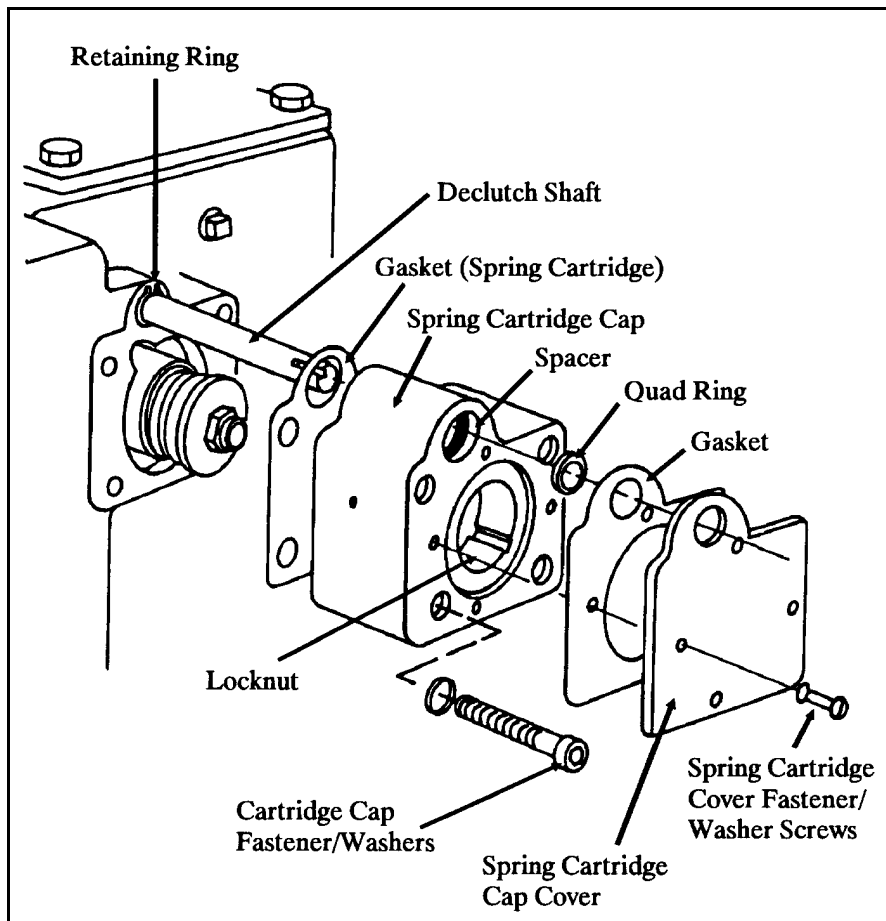

Figure 4-42 Spring Cartridge Cap Assembly Installation (New Style)
22b. Spring Cartridge Cap Assembly Installation (New Style) Refer to Figure 4-42
1. Lubricate end of declutch shaft projecting from the spring cartridge cap cover (Figure 4-42).